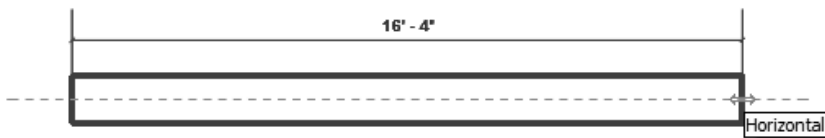

Figure 3-28 Sketching a horizontal wall segment
- Move the cursor on the horizontal axis so that the dashed line appears at the central axis of the wall segment, as shown in Figure 3-28. Notice the two-sided arrow attached to the endpoint of the wall. This indicates that the wall segment being sketched is horizontal. A tooltip indicating the horizontal alignment is also displayed.